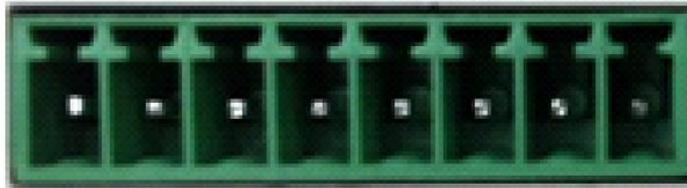

Figure 2-6-1 Instrument data collect port
1. As figure 2-6-1 shown, test line interface face up on same level
2. Insert the test lead in the direction indicated by the arrow of Figure 2-6-1